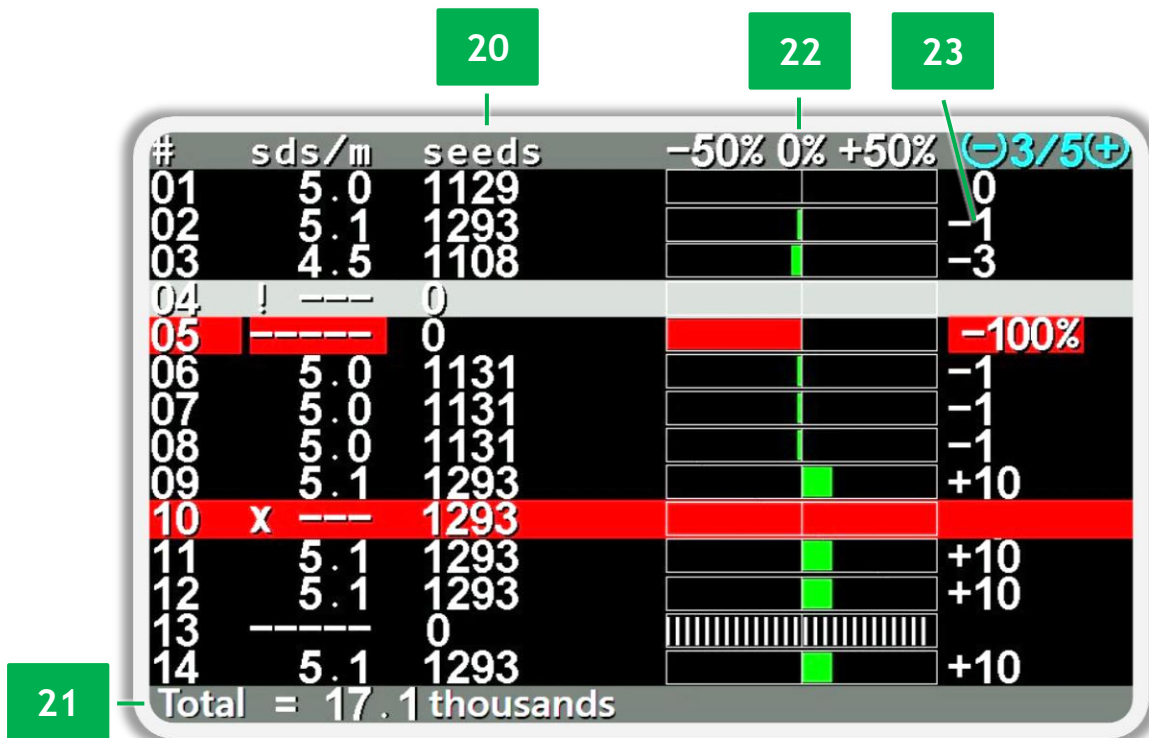

Figure 32 Displaying the number of sown seeds
- Displaying the number of sown seeds, applied dry fertilizers or the volume of liquid fertilizers (see Figure 32). This display mode is always available to the user.